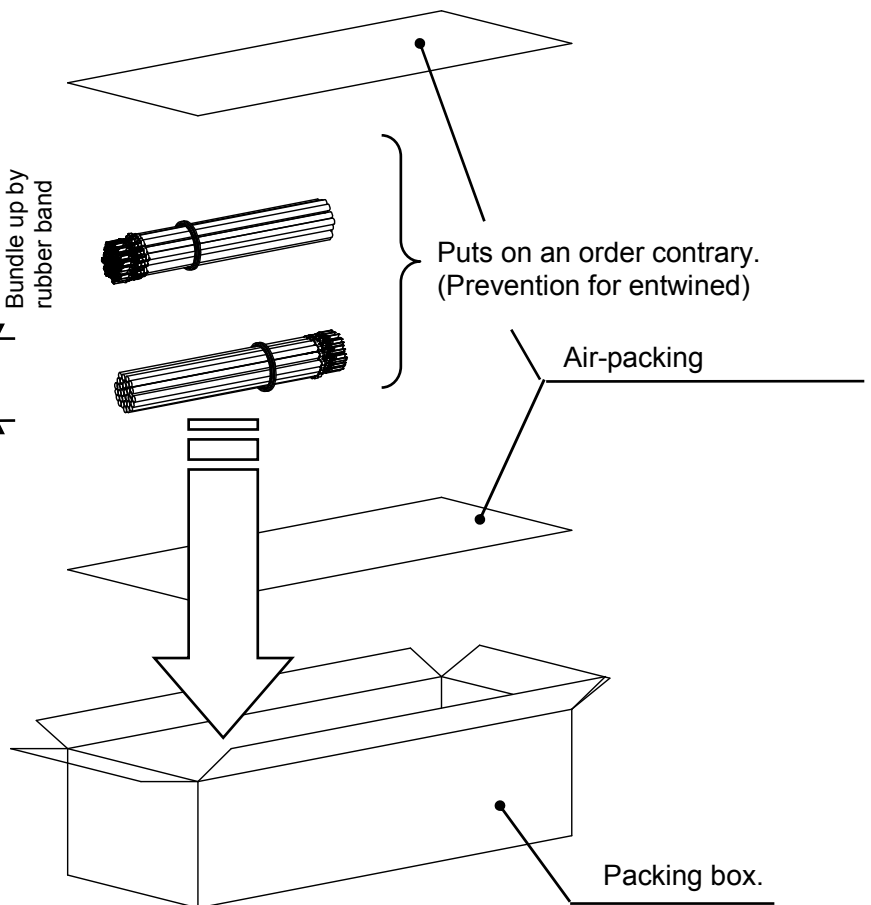

Fig. 5-2
- ※When packing bundle of harness after processing in package box, in order that force etc. is not added to connector for long time by pile, please put product on the other side alternately (cross shape) fitting box. **(Fig.5-2)**
- ※ Please lay buffer etc. on package box underside. In order that force by piling package boxes etc. is not added to connector for long time, please lay buffer etc **(Fig.5-2)**